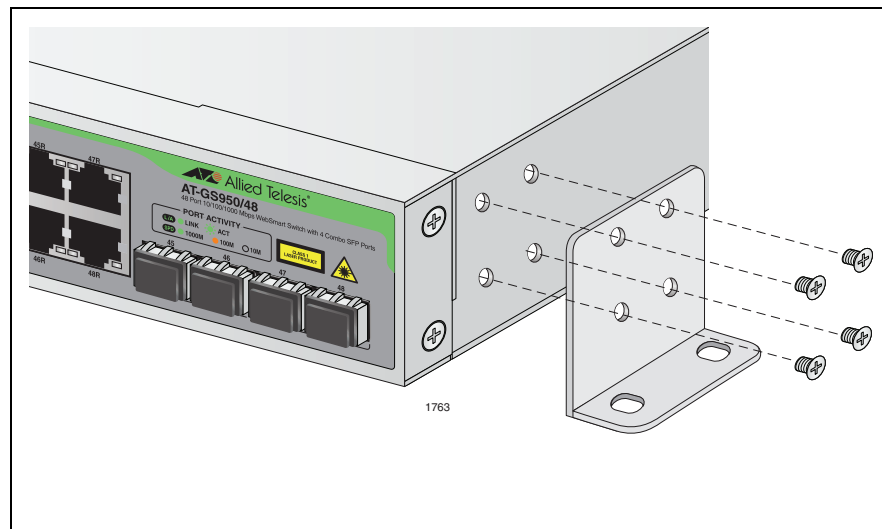

Figure 6. Attaching Brackets for Wall Mounting
2. Attach a mounting bracket to one side of the switch using four Phillips head screws that come with the switch, as shown in Figure 6.